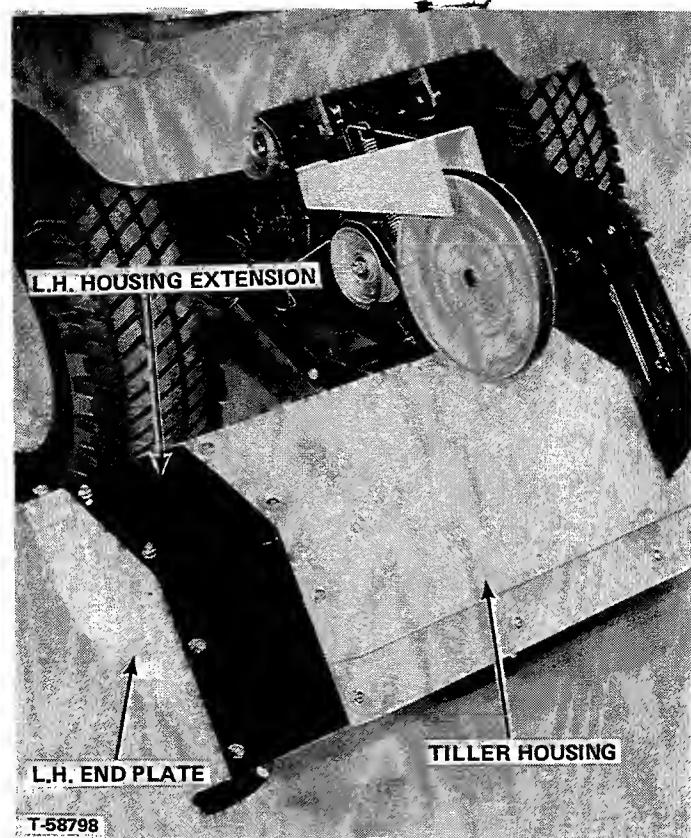

FIGURE 8
4. Replace left hand and right hand end plates in tiller housing (Figure 8).